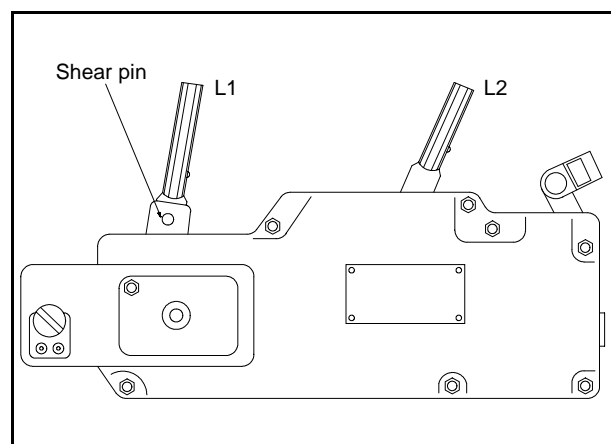

Fig 10.2 Winch (Models T516 and T532)
- model T516 (see Fig 10.2); and
- model T532 (see Fig 10.2).